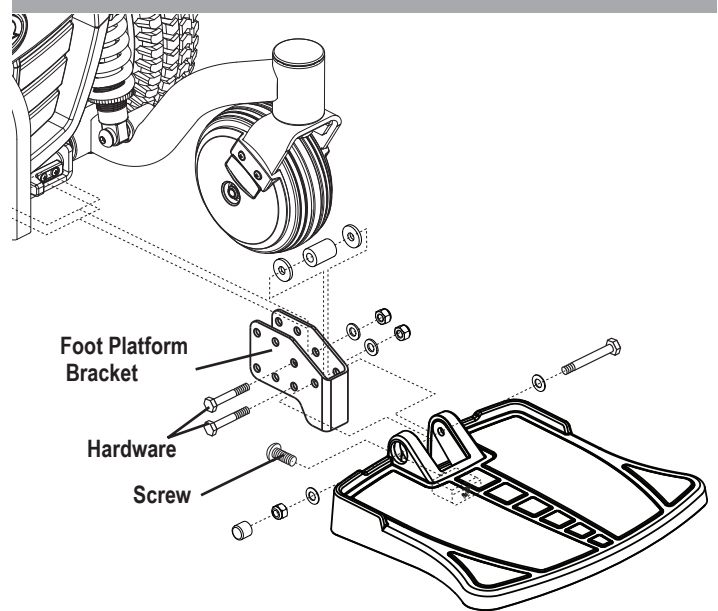

Figure 15. Foot Platform Adjustment
1. Remove the hardware from the foot platform bracket. **See figure 15.**
1. Flip up the foot platform and locate the screw. **See figure 15.**